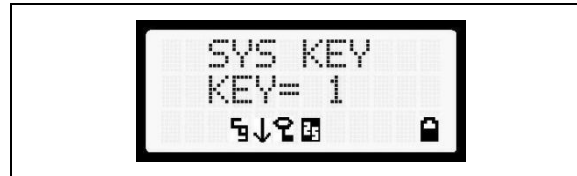
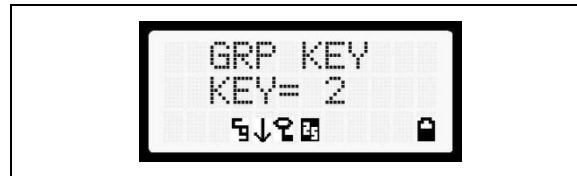

Figure 7-8: System Encryption Key Display
Figure 7-9: Group/Channel Encryption Key Display
3. Use the  or  button to toggle between displaying the system key (Figure 7-8) or the group/channel key (Figure 7-9).